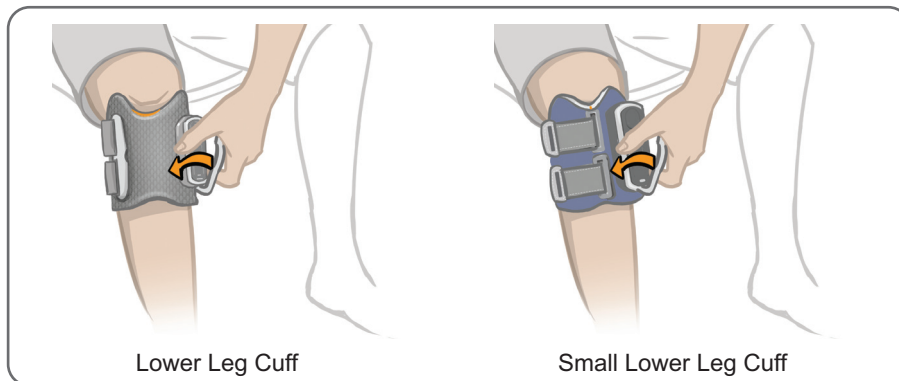

Figure 6-13: Fastening the Lower Leg Cuff Strap
4. Grasp the handle of the Lower Leg Cuff strap. See Figure 6-13. With your thumb on the cuff cradle, fasten the strap handle around the cradle. If using the small Lower Leg Cuff, you may need to use your other hand to stabilize the cuff on the leg.